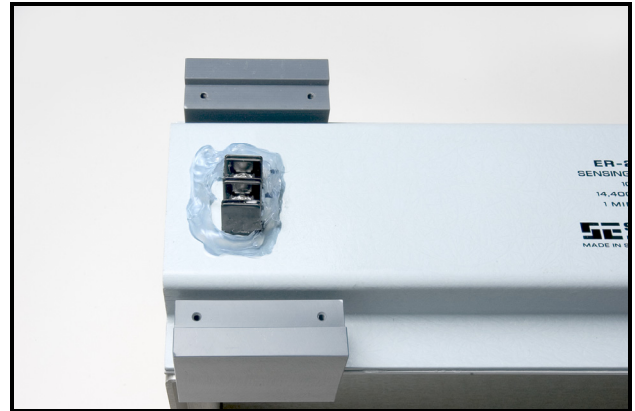

FIGURE 3
3. Apply a generous, continuous circular bead of silicone sealant to the top surface of the sensing resistor around the terminal block as shown in Figure 3.